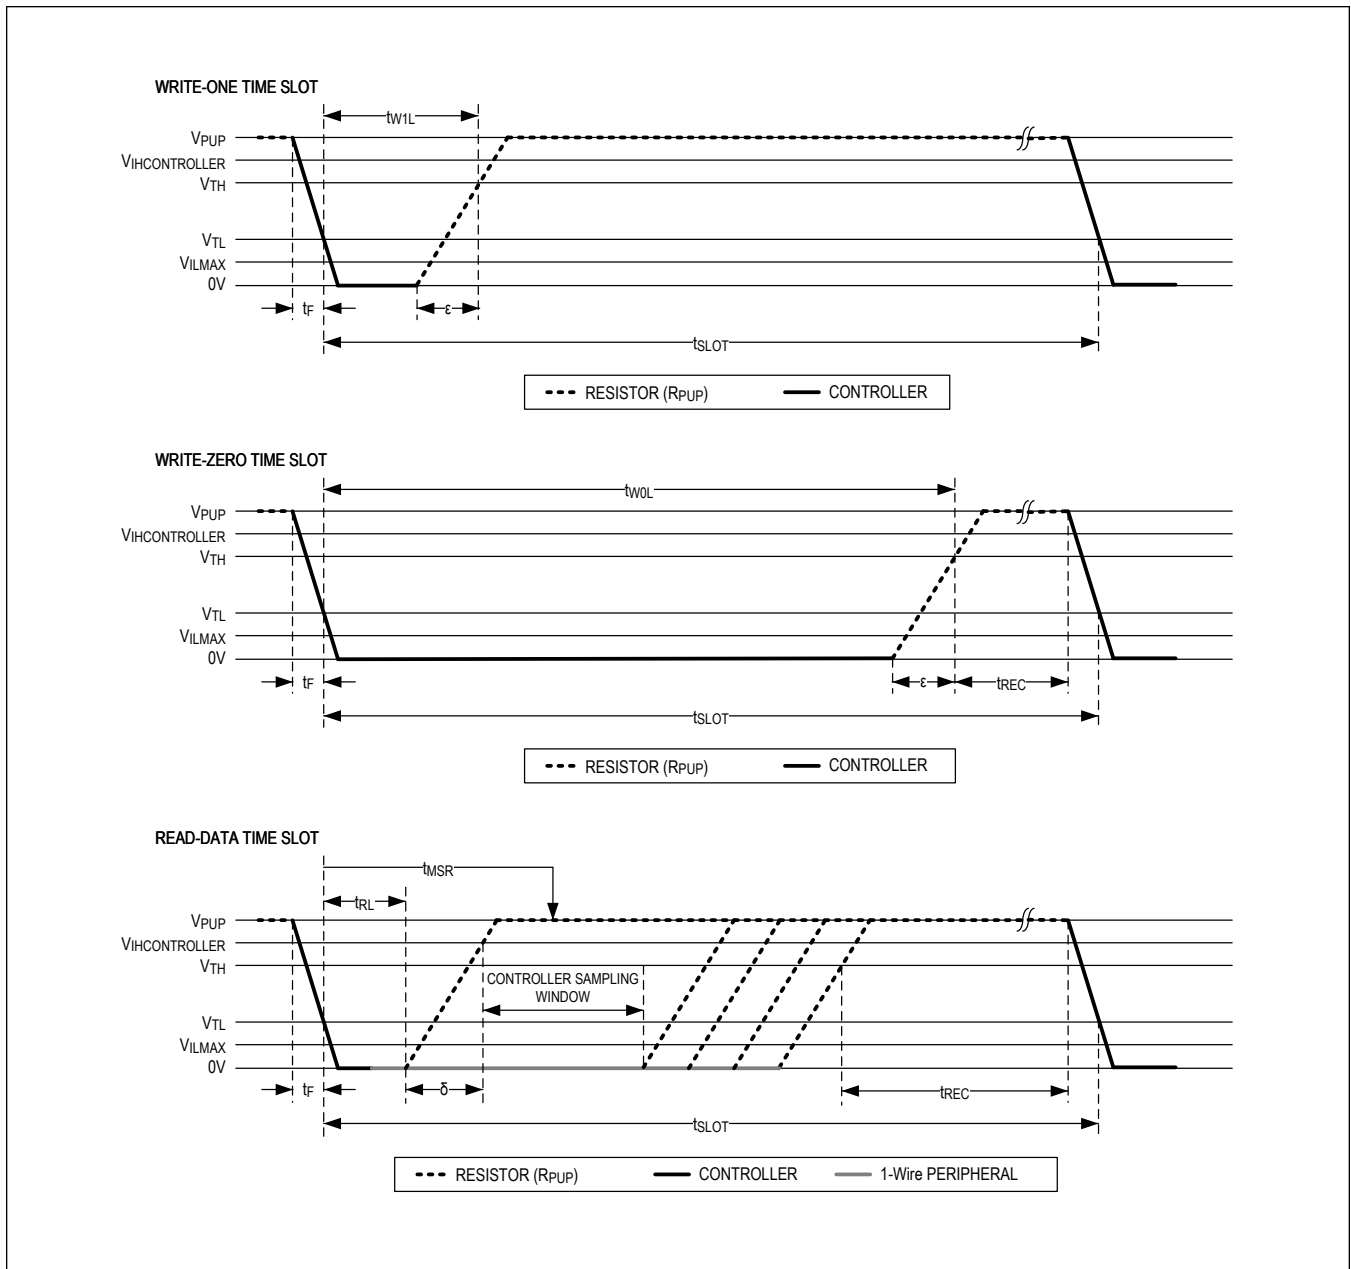

Figure 4. Read/Write Timing Diagrams
**Note 13:** System requirement.  $\epsilon$  in Figure 4 represents the time required for the pullup circuitry to pull the voltage on IO up from  $V_{\text{IL}}$  to  $V_{\text{TH}}$ . The actual maximum duration for the controller to pull the line low is  $t_{\text{W1LMAX}} + t_{\text{F}} - \epsilon$  and  $t_{\text{W0LMAX}} + t_{\text{F}} - \epsilon$ , respectively.
- Note 14:** System requirement.  $\delta$  in Figure 4 represents the time required for the pullup circuitry to pull the voltage on IO up from  $V_{IL}$  to the input-high threshold of the bus controller. The actual maximum duration for the controller to pull the line low is  $t_{RLMAX} + t_F$ .
Data communication with the DS28E50 takes place in time slots that carry a single bit each. Write time slots transport data from bus controller to peripheral. Read time slots transfer data from peripheral to controller. Figure 4 illustrates the definitions of the write and read time slots. All communication begins with the controller pulling the data line low. As the voltage on the 1-Wire line falls below the threshold  $V_{TL}$ , the DS28E50 starts its internal timing generator that determines when the data line is sampled during a write time slot and how long data is valid during a read time slot.